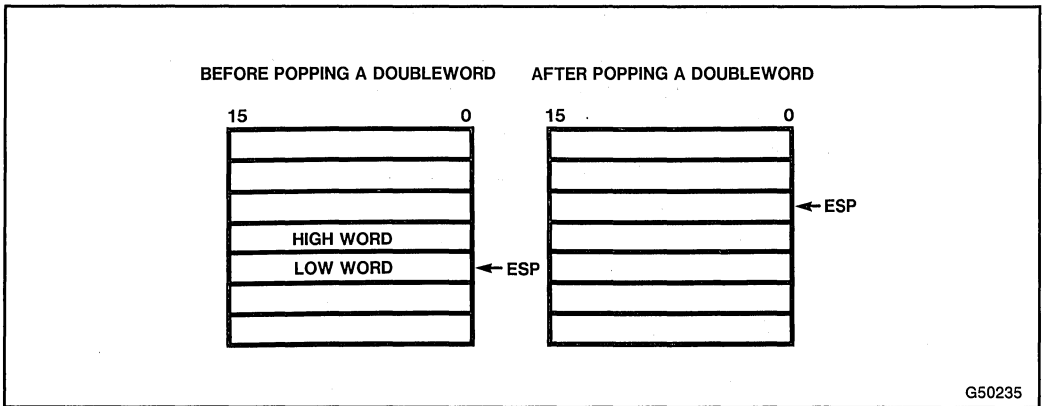

Figure 3-3. POP Instruction
**POP (Pop)** transfers the word or doubleword at the current top of stack (indicated by the ESP register) to the destination operand, and then increments the ESP register to point to the new top of stack. See Figure 3-3. POP moves information from the stack to a general register, segment register, or to memory. A special form of the POP instruction is available for popping a doubleword from the stack to a general register. This form has an encoding which is one byte shorter than the general-purpose form.